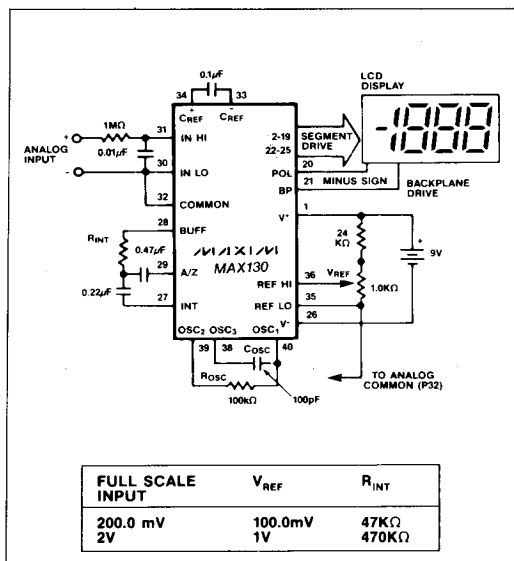
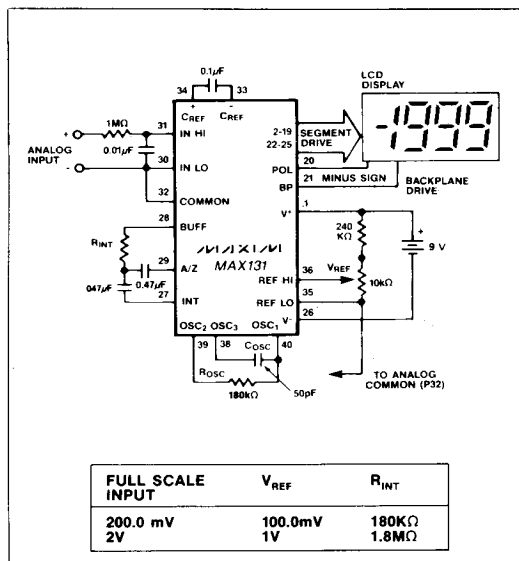

Figure 1. Maxim MAX130 Typical Operating Circuit, 3 Conversions per Second
Figure 2. Maxim MAX131 Typical Operating Circuit, 3 Conversions per Second
( $V^+ = 9\text{V}$ ,  $T_A = 25^\circ\text{C}$ ,  $f_{\text{CLOCK}} = 48\text{kHz}$ ; test circuit - Figure 1; unless noted)
(V+ = 9V, TA = 25°C, fCLOCK = 48kHz; test circuit - Figure 2; unless noted)
**Note 3:** Test condition is VIN applied between pin IN-HI and IN-LO through a 1MΩ series resistor as shown in Figures 1 and 2.
**Note 4:** 1MΩ resistor is removed in Figures 1 and 2.
Figures 1 and 2 show the basic MAX130 and MAX131 applications circuits. Note that the circuits for the MAX130 and the MAX131 use different values for the integration and oscillator components. The MAX130 can operate using the MAX131 component values, but the MAX131 will not operate using the MAX130 component values. The lower supply current device, the MAX131, must always use the higher value integrator resistor as shown in component value table in Figure 2. With a typical operating current of only 65µA, the MAX131 will operate for about 8500 hours when powered by a typical 550mAh alkaline 9V battery. The MAX130 will operate for 2200 hours with a 550mAh battery.
The MAX130/131 can easily be used with ±5V supplies. Connect  $V^+$  to +5V,  $V^-$  to -5V. If the voltages to be measured are referred to ground, then connect In Lo to ground. In most cases, Ref Hi and Ref Lo should be connected to a resistive divider string between  $V^+$  and Common, as shown in the standard application circuits of Figures 1 and 2. If Common is not used to generate the reference it can either be left floating or can be connected to ground. If the MAX130/131 oscillator is driven by 5V logic, or if the MAX130/131 LCD outputs drive 5V logic, then connect the Test pin to ground. If the MAX130/131 open circuit Test voltage is above ground, then connecting Test pin to ground will set the internal digital ground to approximately ground. If, however, the open circuit Test voltage is negative, then the internal digital ground voltage will remain negative, additional  $V^+$  supply current will be drawn, and the LCD segments will continue to swing